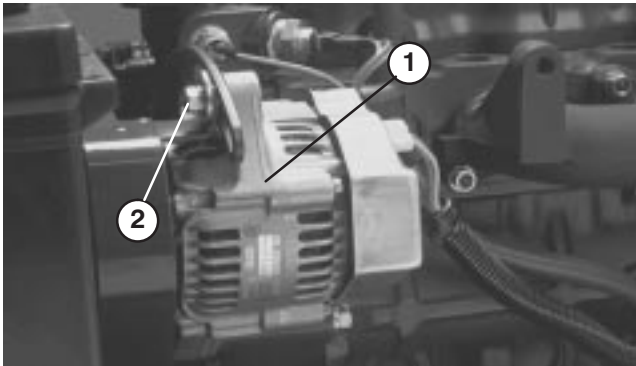

Figure 36
1. Condition and Tension – Check condition and tension of belt (Fig. 36) after every 100 operating hours.